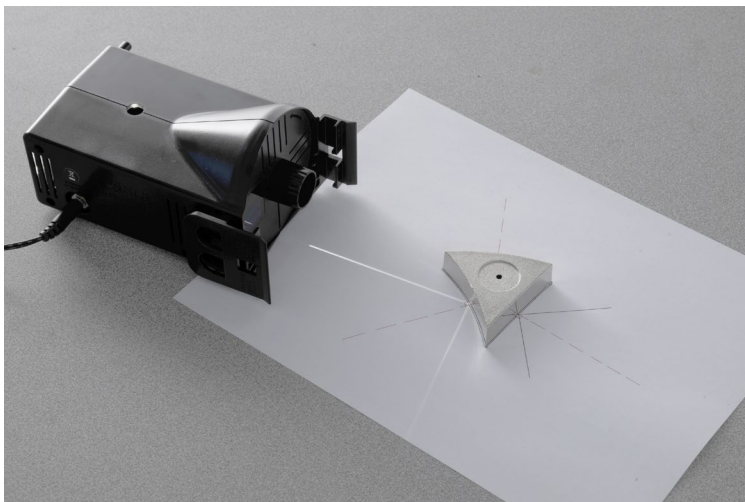

Figure 8: Concave Mirror Reflection
1. Adjust the position of the light source so the single light ray now hits the concave mirror at the point the normal line extends from the outline as in Figure 8.